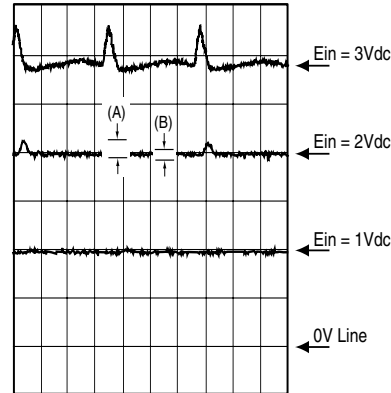
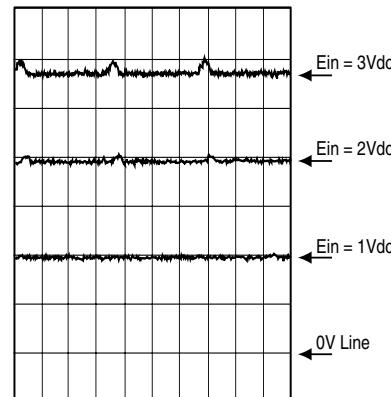
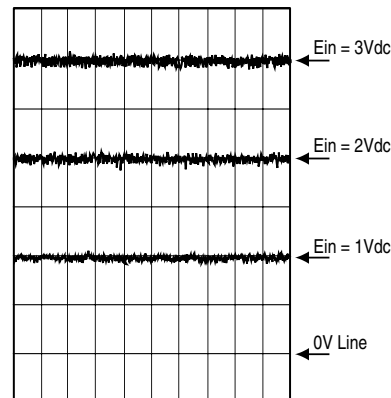

FIGURE 6A. MEASURED LOAD WAVEFORM.
FIGURE 6B. ADDING A 10,000 μF IN PARALLEL WITH C1 LOWERS OUTPUT RIPPLE, ESPECIALLY AT HIGH CURRENT LEVELS.
FIGURE 6C. WORKS WITH A WIDE RANGE OF LOADS. WITH R1 OPEN, HIGH FREQUENCY RIPPLE IS HIGHER BECAUSE OUTPUT LC FILTER IS UN-TERMINATED.
Actual oscilloscope waveforms are shown in Figure 6a. The three load waveforms, from bottom to top, are respectively with inputs at 1 Vdc, 2 Vdc and 3 Vdc. There are two groups of ripple in each waveform. The ripple marked (A) is caused by the 60 Hz, 115 Vac power source, and can be lowered by increasing the capacitance for C1. Figure 6b shows the improved 60 Hz ripple by paralleling another 10,000 μF with C1 of 1000 μF . The improvement is especially noticeable with $E_{in} = 3\text{Vdc}$. The high frequency ripple marked (B) in Figure 6a is caused by insufficient attenuation of the 22.5 KHz PWM pulse train by the three pole LC filter made up of L1, L2 and C4 in Figure 3. You can lower ripple (B) by increasing the number of poles for the LC filter. Figure 6c is the same as Figure 6a except R1 becomes open circuit. Note that high frequency ripples are noticeably higher because the LC filter no longer has a balanced load and its frequency response is no longer maximally flat. But, the 60 Hz ripple disappears because it is proportional to the load current.
This AC/DC power supply was designed with a gain of 20V/V. With $E_{in} = 1\text{Vdc}$, E_{out} should be 20 Vdc and this is what Figure 6a shows in its bottom waveform. In the top waveform where $E_{in} = 3\text{Vdc}$, E_{out} should be 60 Vdc while Figure 6a shows about 58 Vdc. The error is caused by the winding resistances of the inductors L1 and L2; and the error is higher at high output voltage and high current levels. You can eliminate this error by moving the voltage feedback point from the output of SA14 to the load, positive terminal of R1 (Figure 3). You will get better load voltage accuracy but at the